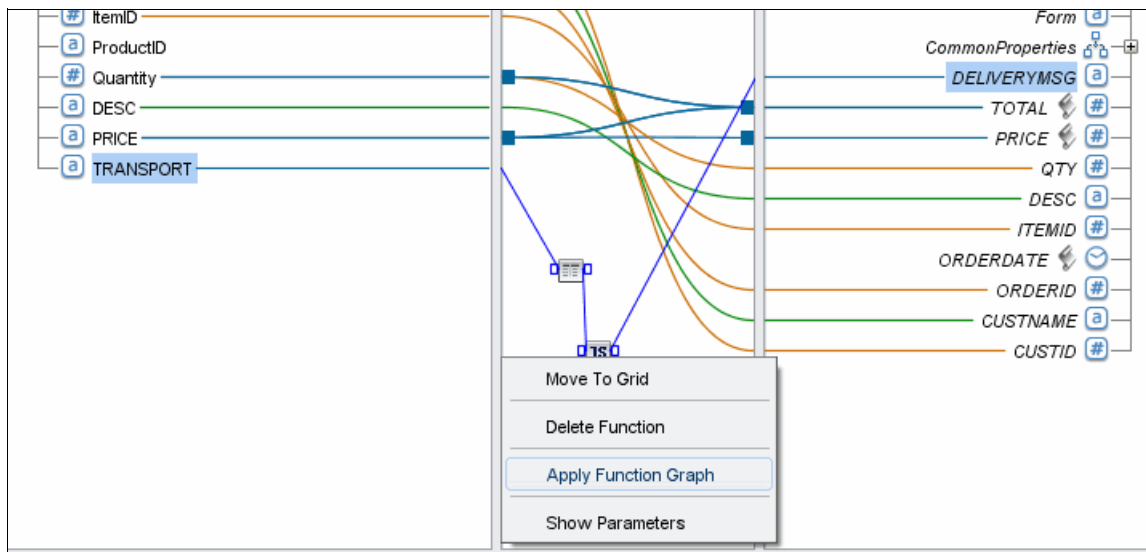

Figure 12-76 Calculating delivery date message
17. Right-click the **custom function**, and select Apply Function Graph, as shown in Figure 12-76.